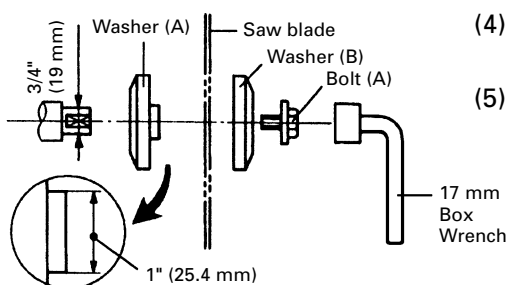

Fig. 25
1. Mounting the saw blade (Fig. 24-a, Fig. 24-b and Fig. 25)